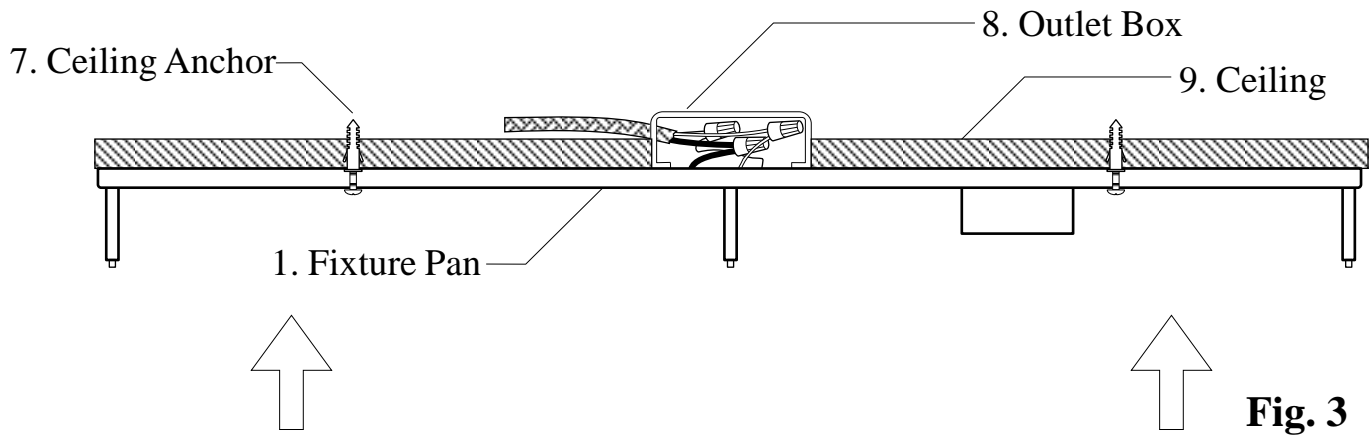

Fig. 3
6. Carefully tuck all wire connections into the Outlet Box (#8). Place the Fixture Pan (#1) onto the desired location, making sure that the halfway threaded Mounting Screws (#6) feed through the large openings of the Keyhole Slots (#17). Slide the Fixture Pan (#1) so that the Mounting Screws (#6) slide into the narrow slots of the Keyhole Slots (#17). Tighten the Mounting Screws (#6) down to secure the Fixture Pan (#1) in place. **(Fig. 3 & 3-1)**